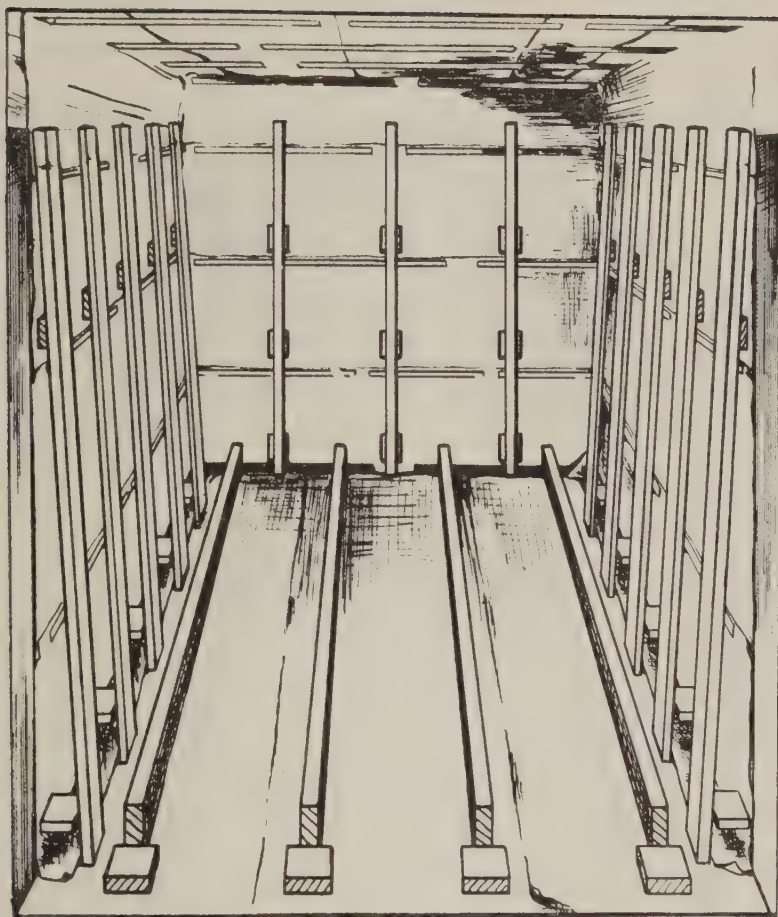

FIG. 7.—False floor stringers and blocks in place.
7. Spike 4 of the 2 by 6 in. by 15 ft. 6 in. pieces to the floor in each end of the car for stringers to support the false floor, as illustrated in figure 7. This will make a 6-inch space between the car floor and the false floor. Make certain that one end of the studding is tight against the end wall of the car.
8. Spike 2 by 4 by 4 in. blocks securely to the car floor at the end of each stringer as in figure 7. *Caution:* Do not run a strip across the ends of the stringers from side to side of the car. This is a very common cause of uneven heating, as it blocks a large portion of the warm air circulation.
5. Spike four pieces of 2 by 6 in. studding to the floor in each end of the car for stringers to support the false floor, as illustrated in figure 7. This will make a 6-inch space between the car floor and the false floor. Make certain that one end of the studding is tight against the car end wall. The stringers should extend from the end wall of the car to about even with the doorposts.
6. Spike 2 by 4 by 4 in. blocks securely to the car floor at the end of each stringer (fig 7.). *Caution:* Do not run a strip across the ends of the stringers from side to side of the car. This is a very common cause of uneven heating, as it blocks a large portion of the warm air circulation.